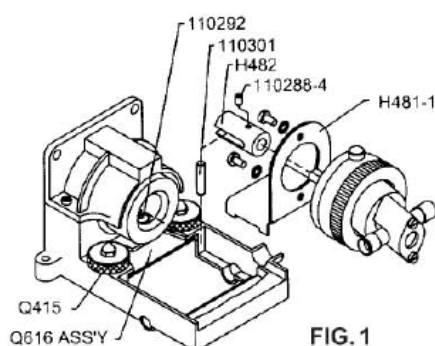

FIG. 1
6. ADAPTING RH PUMP HEADS TO STANDARD Q PUMP DRIVE MODULES. (refer to figs. 1,7c) The RH/Q Kit adapts the RH pump heads to standard Q Pump Drive Modules. Assemble as follows:
- a) Assemble Kit parts to RH pump head as shown (fig. 1) with "shoe" of part H481-1 down. Slip COUPLING H482 fully onto pump shaft, with its slot away from pump head and SET SCREW 110288-4 contacting the flat on the pump shaft.